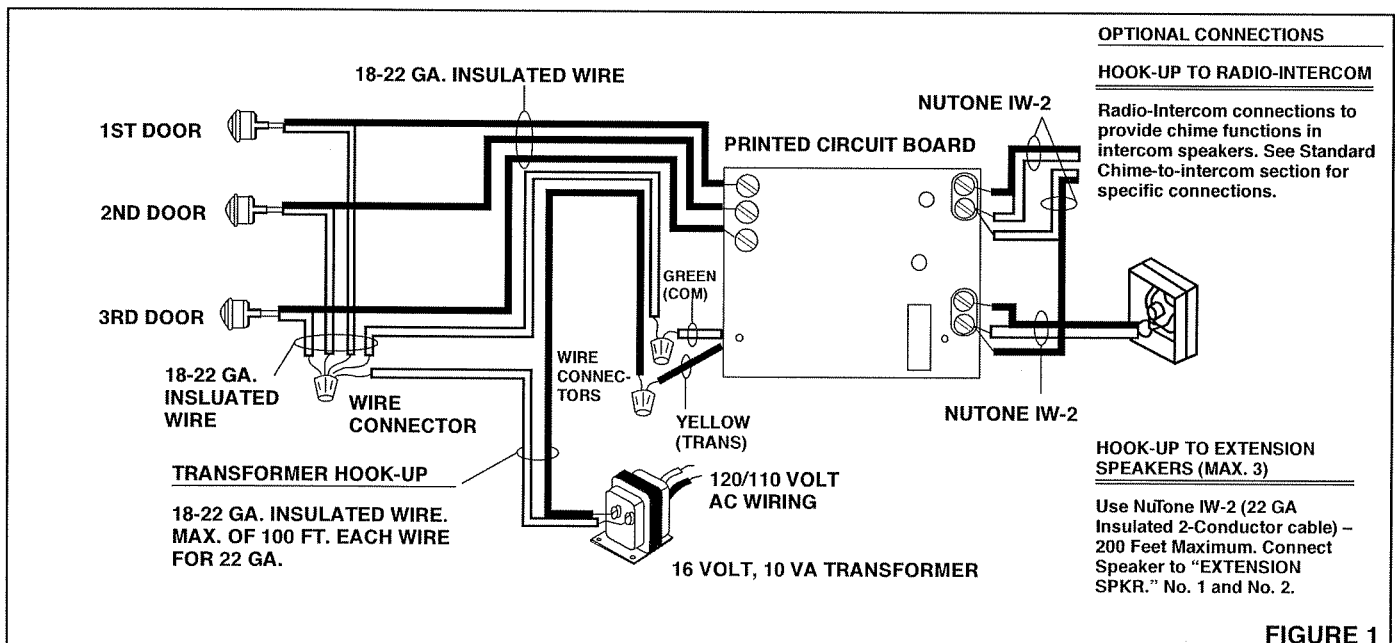

FIGURE 1
2. **Refer to Figure 1.** Run 18-22 gage wire from the transformer and pushbutton(s) to the chime location.
1. **Refer to Figure 1.** Make wire connections to terminals shown as applicable.
Refer to Figure 1.